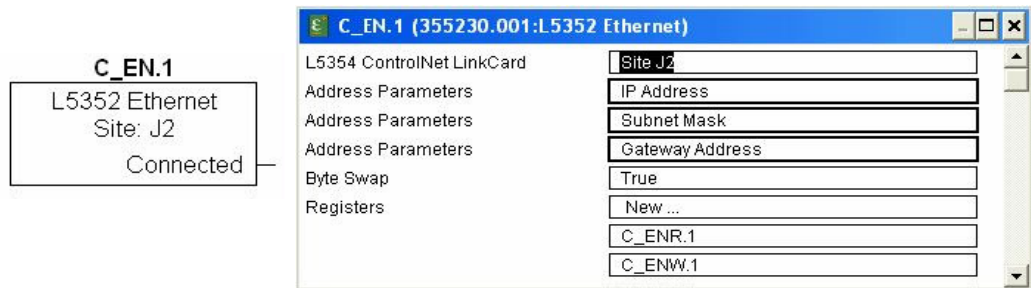

Figure 3.
2. Double-click on the Ethernet handler block to enter the L5352 site address, IP address, Byte Swap, and the Ethernet registers. Ethernet IP protocol requires the use of the Byte Swap feature. Modbus TCP protocol does not use the Byte Swap feature. The Ethernet reader and Ethernet writer registers are listed in the order in which the PLC/PC will communicate to the LinkRack. Refer to Figure 3.